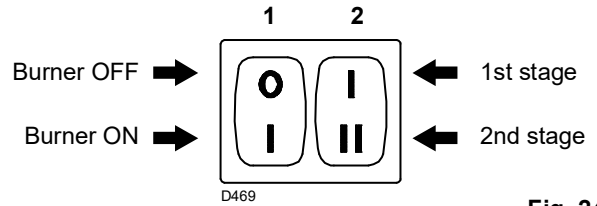

Fig. 24
- switch 1)(Fig. 24) to the "Burner ON" position;
- switch 2)(Fig. 24) to the "1st stage" position.
Now turn switch 2)(Fig. 24, page 24) to the 2nd stage position: the servomotor will open the air damper and, at the same time, the gas butterfly valve at 90°.
Turn switch 2)(Fig. 24, page 24) to the 1st stage position: the servomotor 1) will close the air damper and, at the same time, will also close the gas butterfly valve to 15° (i.e. to the factory setting).
- If it is necessary to increase it, pass to 2nd stage by activating switch 2)Fig. 24, page 24 and slightly increase the angle of the orange lever with small, regular movements (i.e. bring it from an angle of 15° to 17° - 19°....).
- Switch off the burner by means of the switch 1)(Fig. 24, page 24);